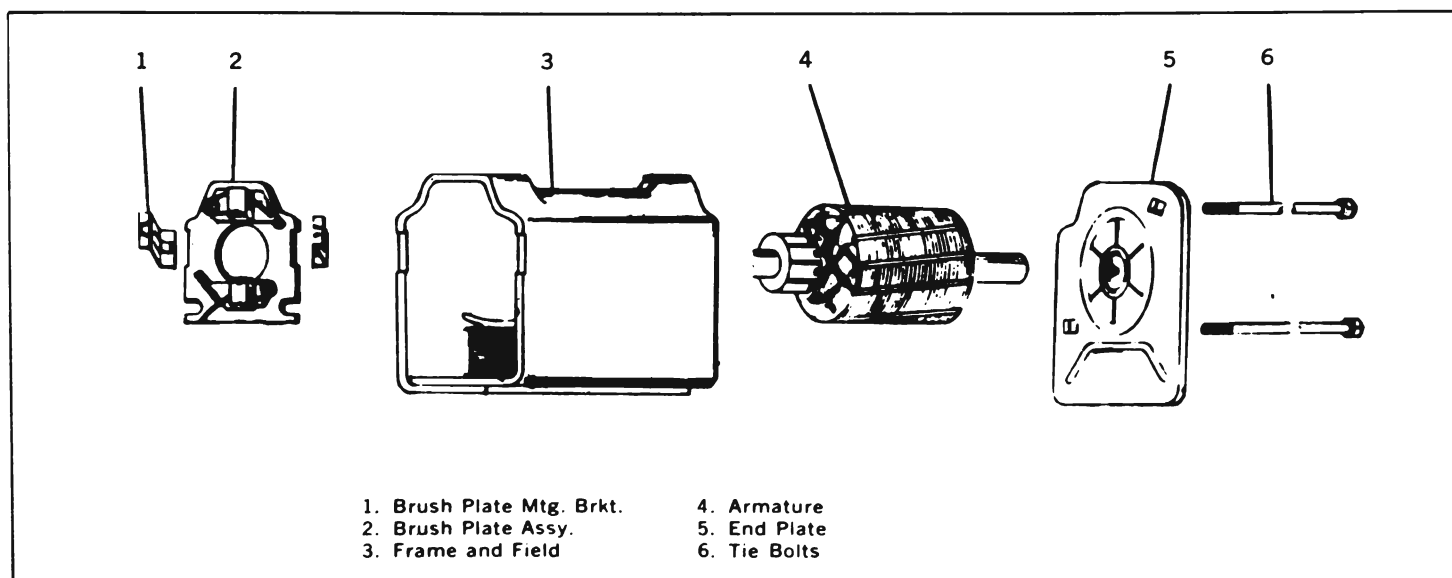

Figure 10-94—Motor Assembly
3. Move brushes away from armature and slide armature out of frame and field assembly. Pull end cap assembly off armature. See Figure 10-94.